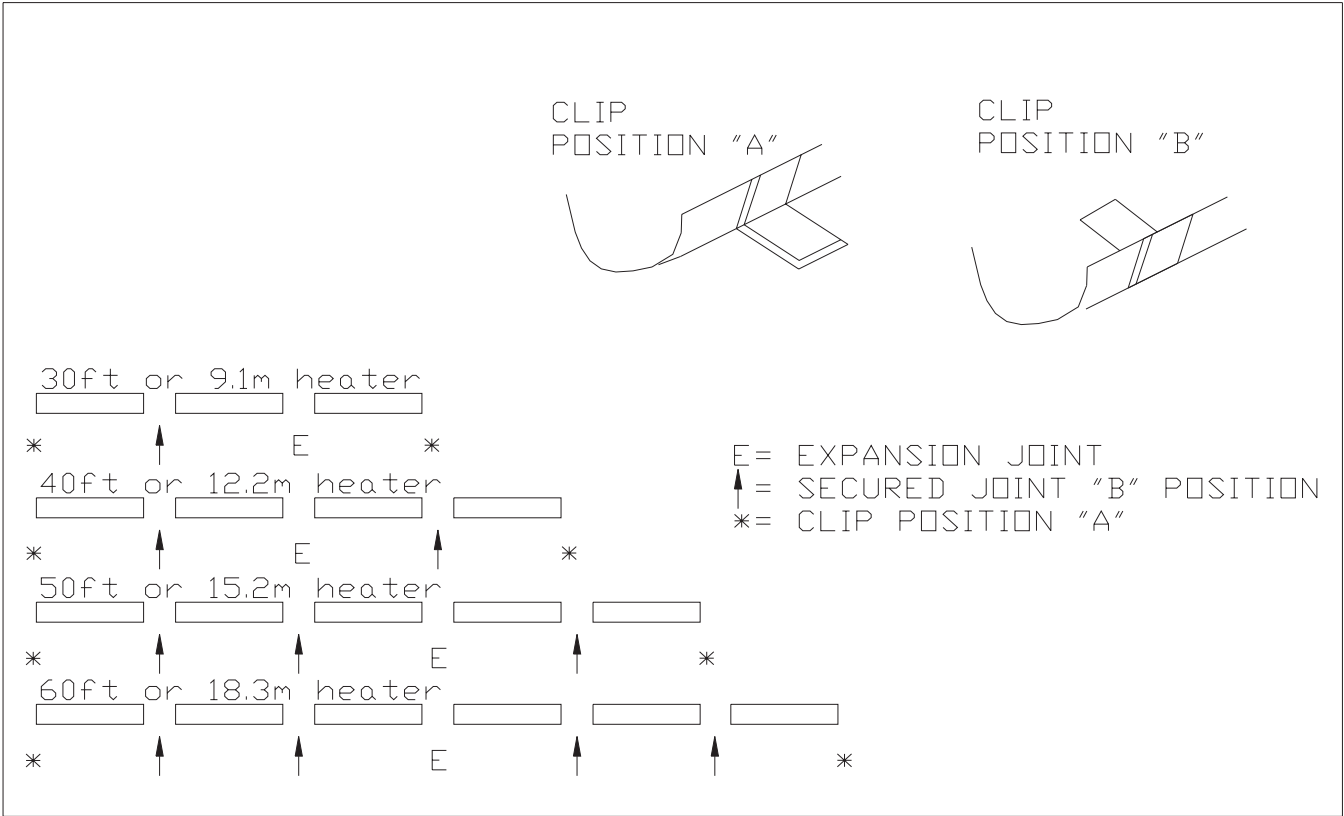

Figure 2.5.3
3. Overlap reflectors 4 inches/10.2cm for support and secure together with supplied clips or sheet metal screws. Make sure to leave an expansion joint as shown in Figure 2.5.3.
4. Install clips in their “A” position as shown in Figure 2.5.3 on the first and last suspension hanger. Clips are located right side front and left side back of the wire suspension hanger.